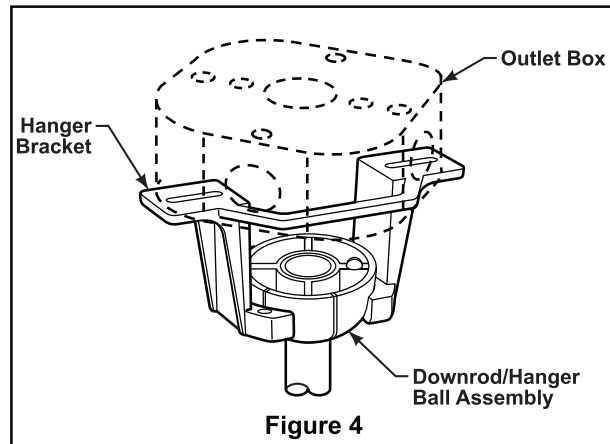

Figure 4
- Carefully lift the fan and seat the downrod/hanger ball assembly onto the hanger bracket that was just attached to the outlet box. Be sure the groove in the ball is lined up with tab on the hanger bracket. (Figure 4) This fan is intended for standard and angled mounting options only. Closemount and flushmount options are not available. For angled ceilings, note the angle can be no more than 19°.